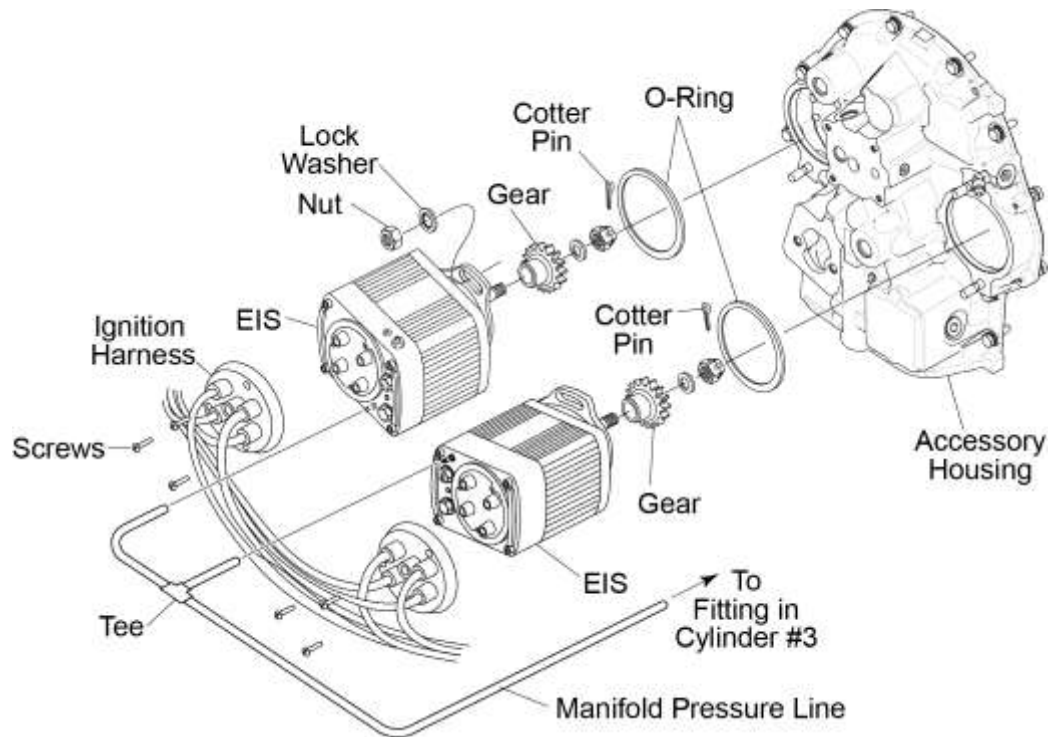
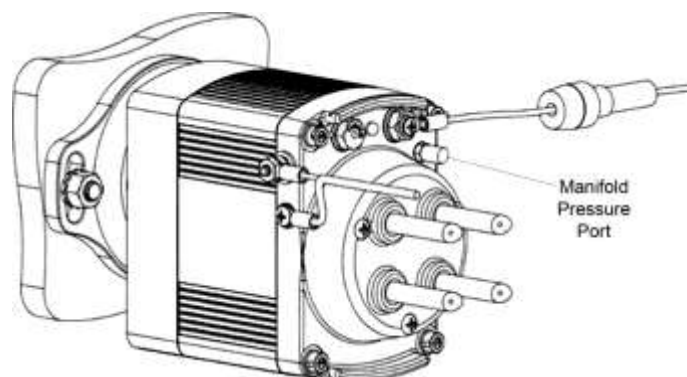

Figure 1
Figure 2
- C. Examine the EIS manifold pressure line (Figure 1) connection to the manifold pressure port (Figure 2) for general condition and security.
- D. Examine the manifold pressure lines (Figure 1) for cracks, kinks, brittleness, wear, or damage. Replace any worn, cracked, kinked, damaged, or brittle manifold pressure line.
- E. Examine the manifold pressure lines for security at the fitting in cylinder #3 and at the tee (Figure 1).
- (1) Ensure the ignition switch is turned off (p-lead grounded).
- (2) Clear the propeller area.
- (3) Turn the ignition switch on (p-lead un-grounded) and verify EIS LED illuminates and blinks.
- (1) Disconnect the ignition leads from all spark plugs.
- (2) Remove one of the spark plugs from Cylinder No. 1 per the “Spark Plug Removal” procedure in Chapter 74-20.
- (3) Turn the crankshaft in the direction of normal rotation to position the piston in cylinder #1 at TDC of the compression stroke.
- (4) Disconnect the manifold pressure line from the manifold pressure port (Figures 1 and 2).
- (6) Remove the three screws that attach the ignition harness to the EIS (Figure 1) and remove the ignition harness from the EIS.
- (7) Hold the EIS and remove the two nuts, two lock washers and two clamps (Figure 1) from the EIS. Discard the lock washers.
- (8) Remove the EIS from the accessory housing.
- (9) Examine the O-ring (Figure 1) for cuts and damage. Replace the O-ring as necessary.